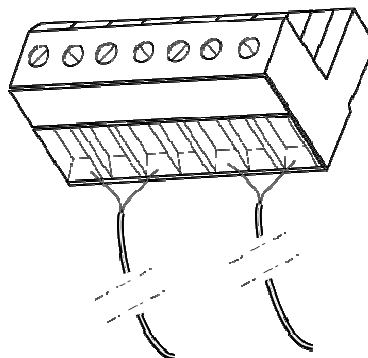

Figure 12 Connecting the Audio Output Cable to the Power Amplifier Input Wiring Terminal
- b. Take the end of the cable that was fed through the protective cover of the power amplifier wiring terminal and connect the cable to the power amplifier output wiring terminal (7P green phoenix tail seating 5.08mm), and tighten the screws. Refer to Figure 12.